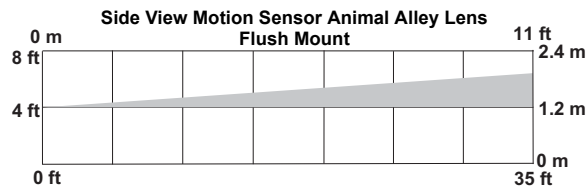

**Figure 2.** The top and side view of the lens coverage area for the motion sensor's standard and animal alley lens.
- The recommended mounting height is 7 1/2 feet, but the sensor can be mounted from 5 to 8 feet high in the corner of the area you want to protect. See the animal alley lens guidelines for mounting the optional animal alley lens (60-639-02-95R only). Higher mounting provides better range (up to 35 feet), and lower mounting provides better protection close to the motion sensor (see Figures 2 and 3). The optional swivel mount (part #60-737) can be used for difficult mounting locations with the SAW PIR (60-639-02-95R) only.
- The pet must not be allowed to climb on objects such as furniture, boxes, etc. within the field of coverage. See Figure 2 to determine the sensor's field of coverage.
The optional animal alley lens (part #60-709) can be used with the SAW PIR (60-639-02-95R). It provides protection in installations where pets move about freely. See figures 2 and 4 for coverage.